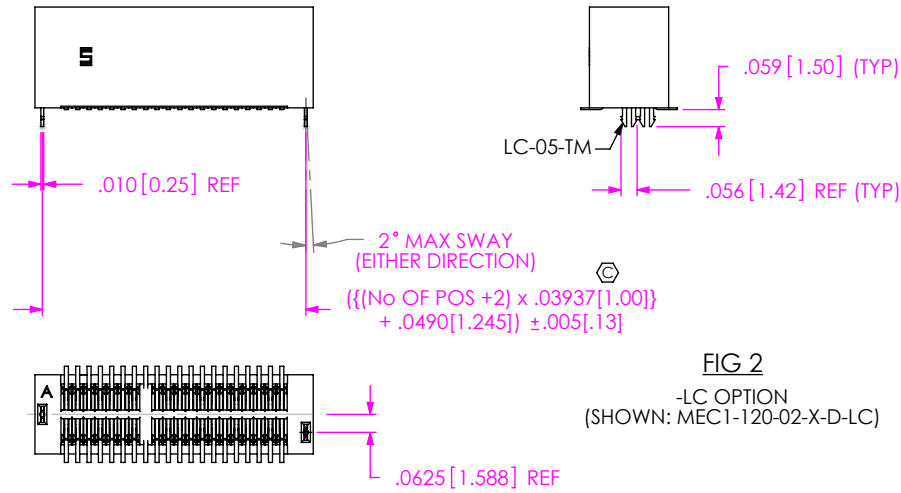

FIG 2
-LC: LOCKING CLIP (SEE NOTE 8) (SEE FIG 2) (USE LC-05-TM)